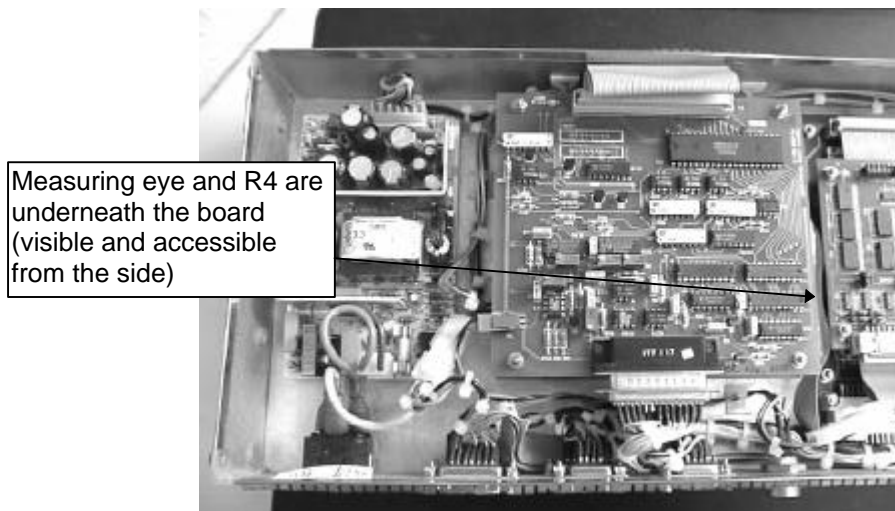

Fig. 22: Measuring eye
- ⇒ To check the digital/analog converter, activate the service utility and select "M" to let the driving values run up to 255. Then, simply put the measuring probe onto the "measuring eye" of R4 as described in Fig. 22 and measure the voltage. If the voltage deviates from 8 ± 0.05 V, readjust it with R4.